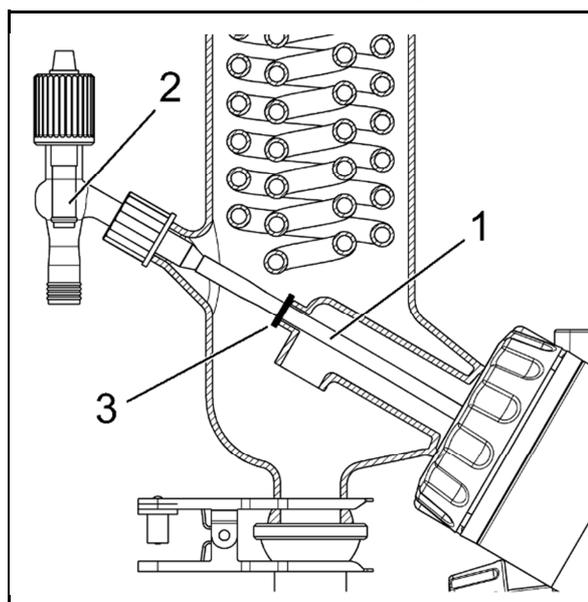

Fig. 6: Position of drip washer
If needed, install the refilling valve (see Chapter 11, *Spare parts and accessories*) (see Fig. 6):
1. Slide the PTFE tube (1) onto the refilling valve's (2) corresponding glass fitting.
2. Slide the drip washer (3) onto the PTFE tube (1).
3. Insert the PTFE tube (1) through the chilled condenser and into the evaporation flask.
Ideally, the drip washer (3) will rest on the insertion tube (see Fig. 6).
4. Position the refilling valve (2) and securely tighten the union nut. The refilling valve is now installed.